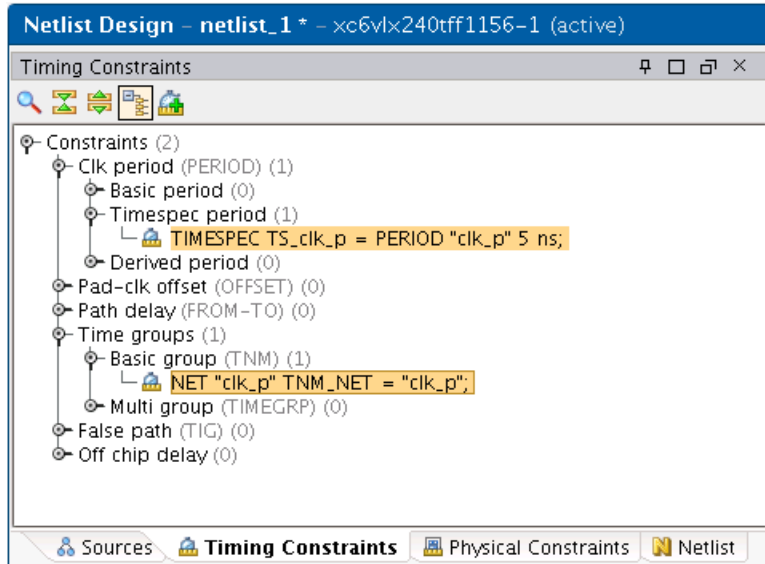

Figure 16: Pblock Statistics (pblock_U1_RP_Bram)
- 7-1-6. Click **OK** to add the constraint. The Timing Constraint window should now look like Figure 16. Note that this is a global timing constraint that will constrain all synchronous paths connected to clk_p in the design. This is not a timing constraint specific to the RP interface.